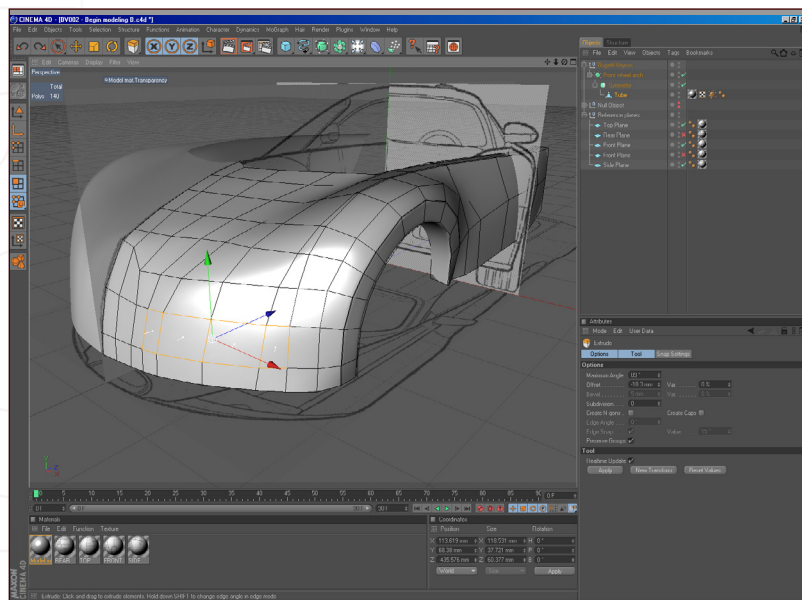

Fig 17
17. Select the polygons, as shown in **Fig17**, and extrude them inwards, then press Delete.